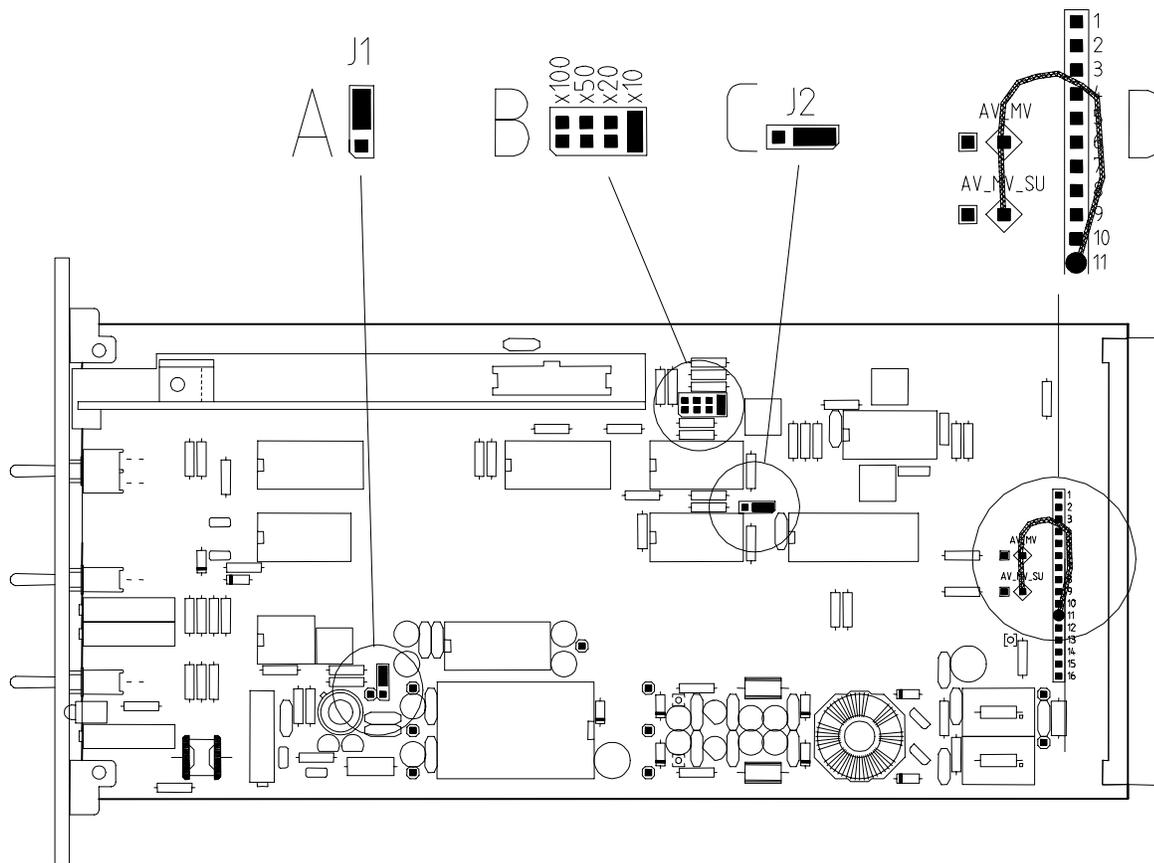

Fig. 2: Position of the internal links
If this voltage is required the link must be set to the required channel (AV1 - AV16). When the module is supplied alone, this link is in the parking position. If the module comes mounted in a PLUGSYS basic system case all these settings are done. The signal is transmitted through the PLUGSYS bus to a recorder or a data acquisition system. (See Fig. 2 D) In this example AV_MV is not used. The mainly used output is AV_MV_SU.
This signal is affected by the Jumper J2 (Fig. 2 C). With this jumper the mV signal from the electrode can be reversed. This signal is **not** affected by the "SUPPRESSION" switch and also not by the "NONINV.(ANION) / INVERTING (CATION)" switch. It gives the direct reading of the electrode in mV x10.
See also Fig 2 C.
The link AV_MV_SU transfers the measured voltage of the electrode multiplied with the gain to one of the 16 possible analogue lines. The gain is set by jumper GAIN (see Fig. 2 B).
In example Fig. 2 D the signal output AV_MV is not used. The signal output AV_MV_SU is set to channel AV11. The jumper J1 (A) is set so that the input filter is set to 0.2 Hz. The gain is set to x10 (B). The mV signal is not reversed, Jumper J2 (C).
As the average reaction time of mini electrodes is about 30 seconds both ranges can be used. It is recommended to use the 0.2 Hz setting (factory setting) since the indication is more stable here and does not jump continually. See Fig 2 A.